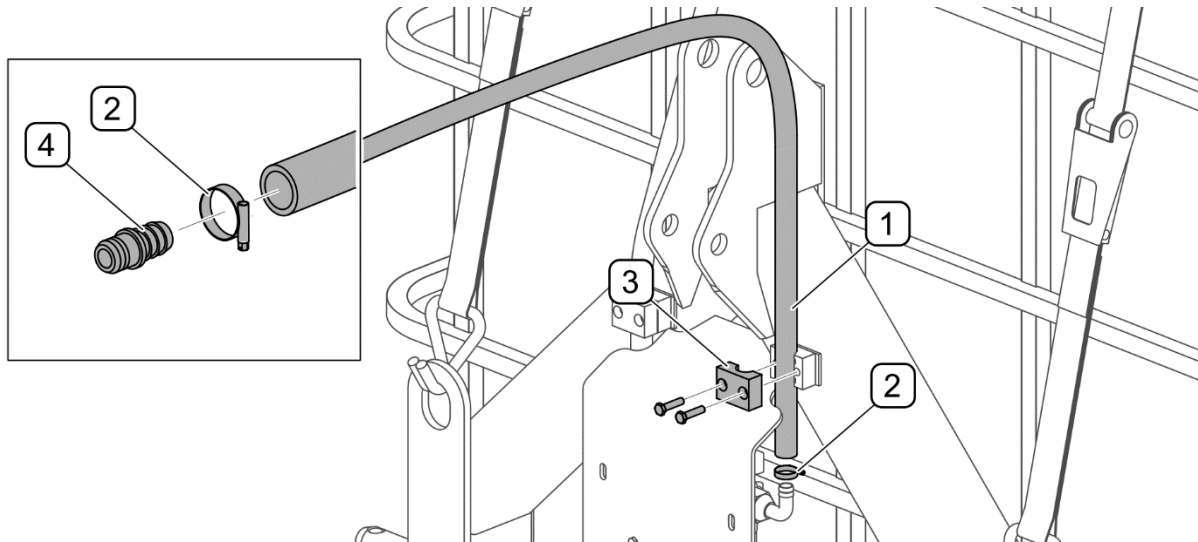

FIGURE 4.7 Hose replacement
(1) - plate, (2) - lamp bracket, (1) - lamp assembly, (4) - reflective warning triangle;
(5) - bracket; (6) - warning sign bracket; (7) - electric lead
The length of the standard outlet hose (1) of the water pump is 4 m (FIGURE 4.7). A hose of any length can be used in the place of the existing hose (FIGURE 4.7) To replace the hose, disconnect clamping ring (3), loosen the band clip (2) and remove the hose from the pump stub pipe. Next, put the band clip (2) on a new hose and mount the hose again on the pump stub pipe. Remove connector (4) and install the band clip (2) at the end of replaced hose.